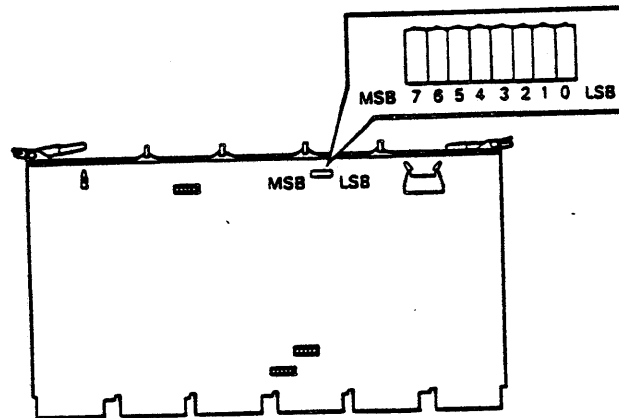

Figure 4-4 M8398 LEDs
The results of the ROM based microdiagnostics can be seen by reading the eight (8) Light-emitting Diodes (LEDs) that are mounted on the M8398 module. Refer to Figure 4-4 for the proper orientation of how the LEDs are numbered. Refer to Table 4-1 for the LED coded display, the function tested when a display is seen, and the field replacable unit that is faulty for each display.